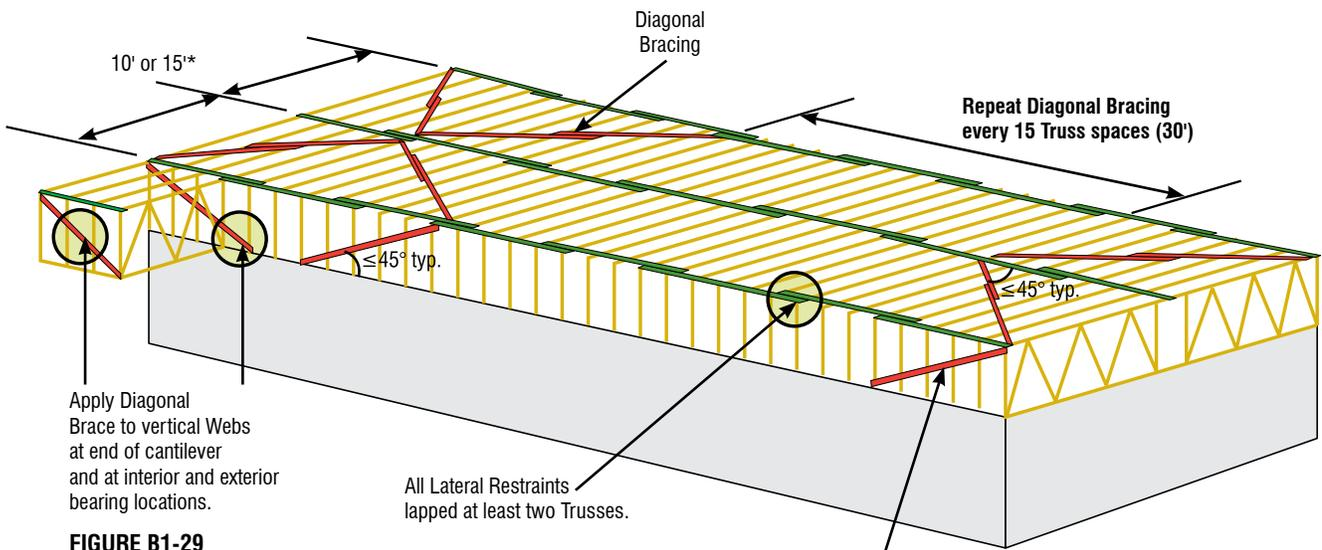

FIGURE B1-29
- ✓ 3x2 and 4x2 Parallel Chord Truss Top Chords can be Laterally Restrained and Diagonally Braced as provided in Figure B1-29 through B1-33. See also **BCSI-B7** for additional information.